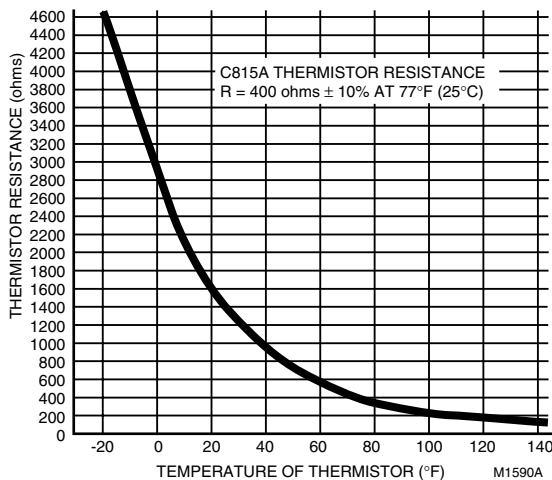

Fig. 29. Thermistor resistance chart.
3. Take outdoor temperature measurement at thermistor location and find correct thermistor resistance on the chart in Fig. 29.